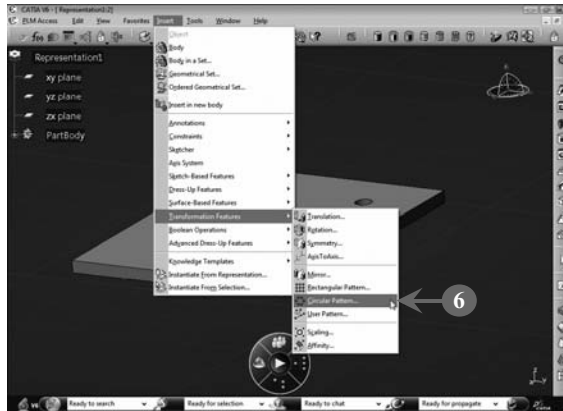

FIGURE 3.117
6. Select **Insert>Transformation Features>Circular Pattern**, as shown in **Figure 3.117**: